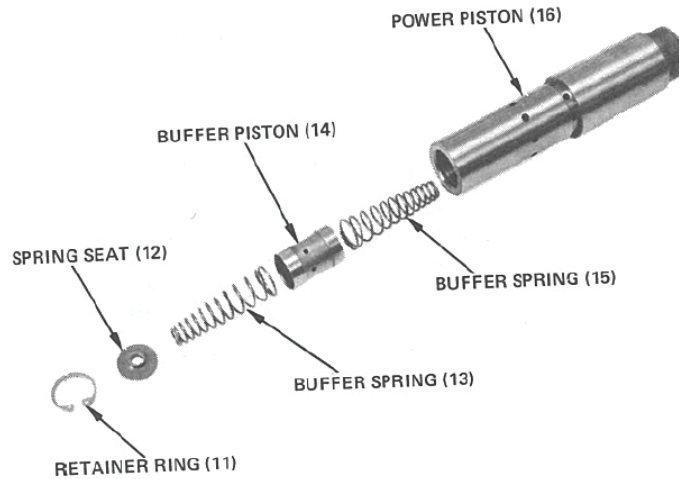

Figure 3-15. Buffer System Assembly
- Assemble buffer system parts (11 through 15) into power piston (16) if previously disassembled for purposes of cleaning. See Figure 3-15 and note position of holes in buffer piston. They must be in this position for proper operation.